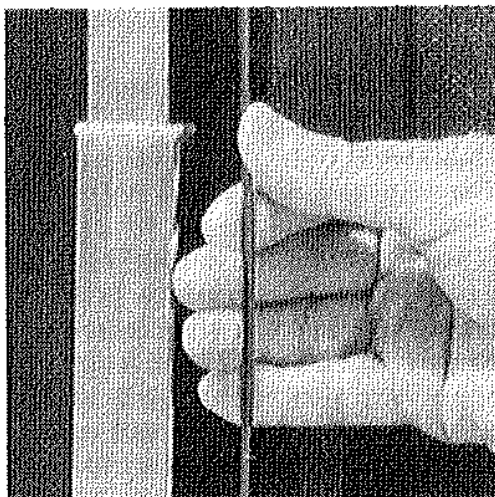

Fig. 3
3. Continue cranking until the limit cable is almost tight. The gray limit cable is located directly above the crank position. Fig. 3
8. Now, complete raising roof until gray limit cable is snug. DO NOT OVERTIGHTEN. Fig 3